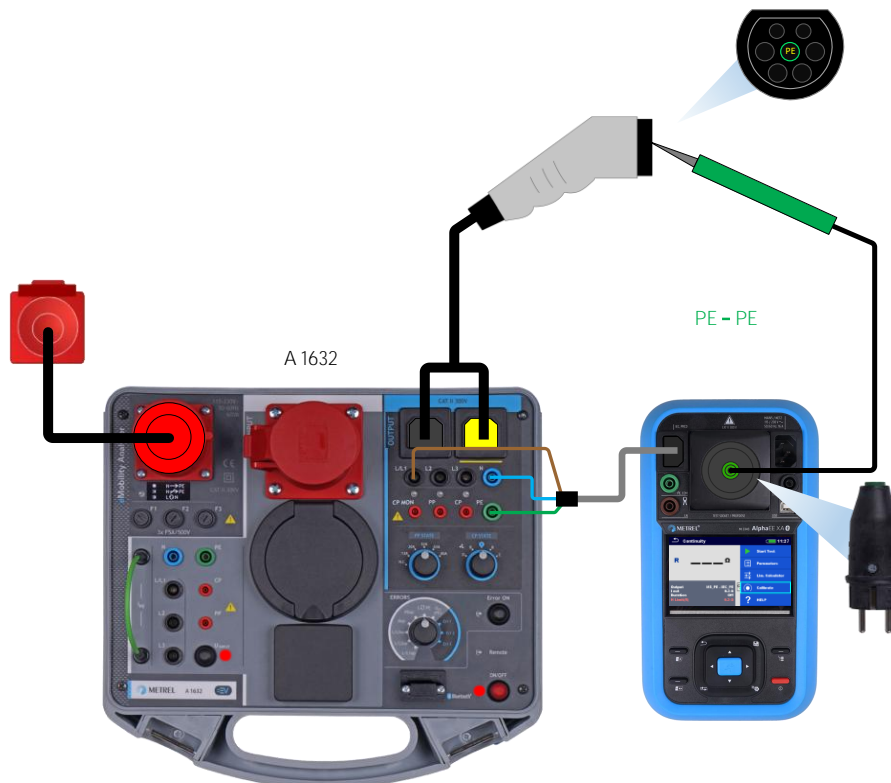

Figure 37_Test leads compensation
- Connect test leads according to the connection diagram Figure 37_Test leads compensation,